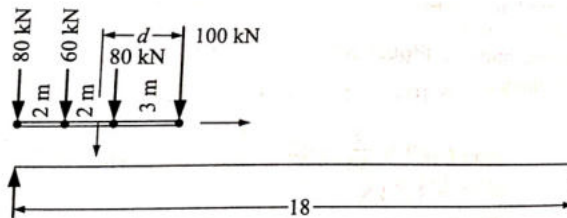

Figure 6.
7. The simply supported beam shown in figure 6, is subjected to a set of four concentrated loads which move from left to right. Determine (a) absolute maximum shear (b) absolute maximum moment in the beam. [14M]